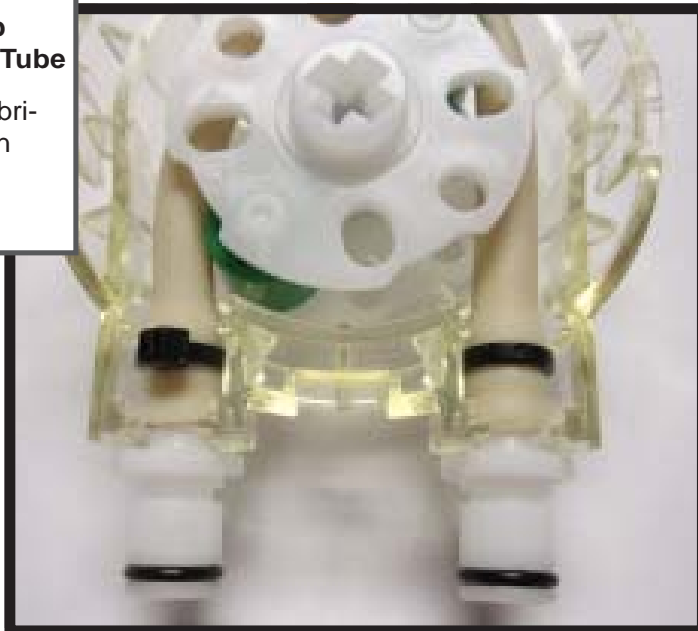

Figure 11-4 Syrup Pump Housing
1. Place a silicone bead of a lubricant i.e. Dow Corning Compound 7, [HC158066] on the outside of each pump peristaltic tube. Wrap the peristaltic tube around the pump head centering it on the rollers. Place the head in the housing making sure the white plastic coupling is outside of the housing and the black tie wrap is inside as shown in figure 11-4.
e. Select a syrup flavor by pushing the proper button then press the syrup prime/calibrate button (see figure 11-4 item 2). Hold the button until sanitizer is flowing into bucket. Continue holding button for one (1) minute.